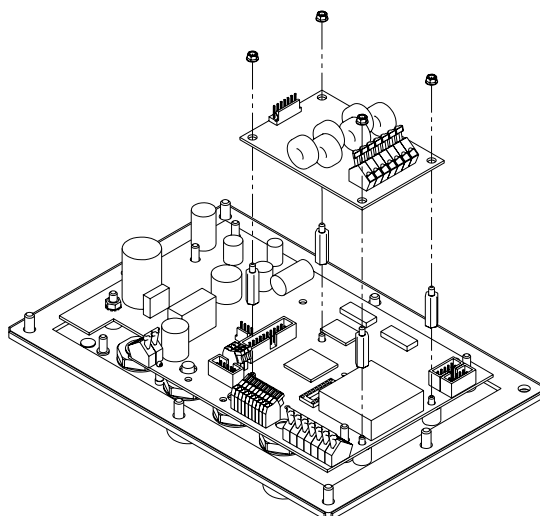

Figure 10-17: 460 Series STVS Installation (VF display removed for clarity)
5. Mount the option board on the threaded standoffs with the load cell connector toward the edge of the 460/465 main board (as shown in Figure 10-17).